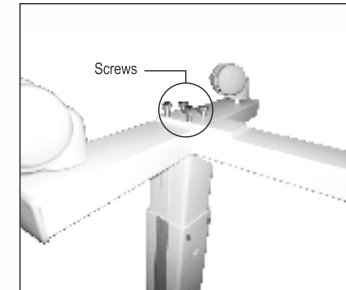

Fig 4
3. Hold the base frame (Fig 4) upside down on base of the stem and fasten it using the bolts.